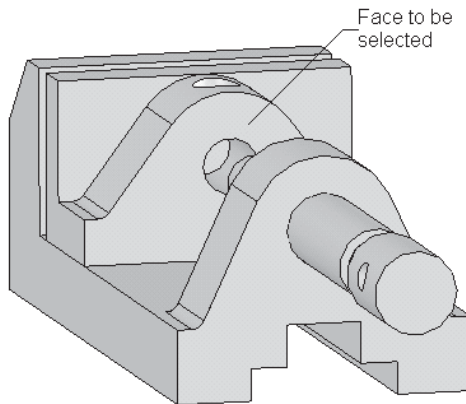
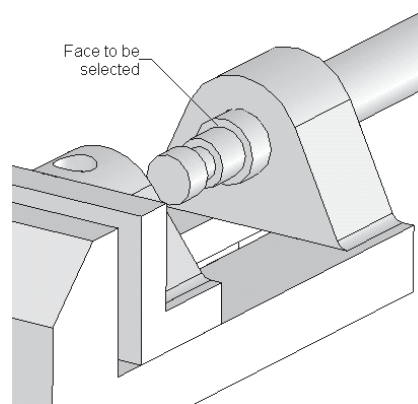

Figure 11-62 Face to be selected
Figure 11-63 Face to be selected
9. Rotate the assembly view and select the face of the Vice Jaw, as shown in Figure 11-62. Next, select the face of the Jaw Screw, as shown in Figure 11-63.